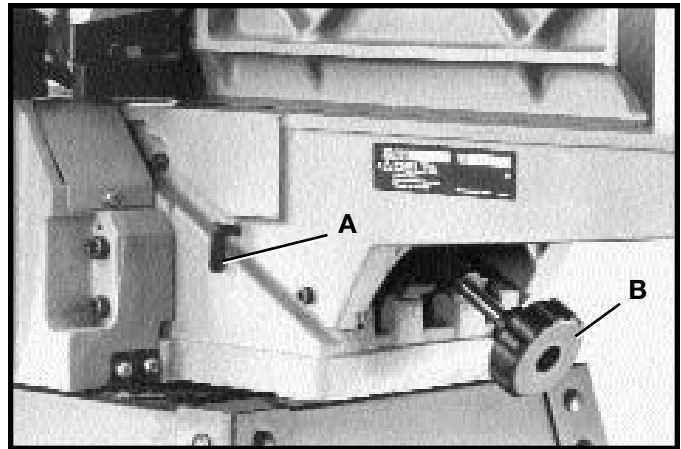

Fig. 38
For most jointing operations the outfeed table must be exactly level with the knives at their highest point of revolution. This means that the knives must be parallel to the outfeed table and project equally from the cutterhead. To move the outfeed table up or down, loosen lock screw (A) Fig. 38, and turn hand knob (B). When the outfeed table is exactly level with the knives at their highest point of revolution, tighten lock screw (A).